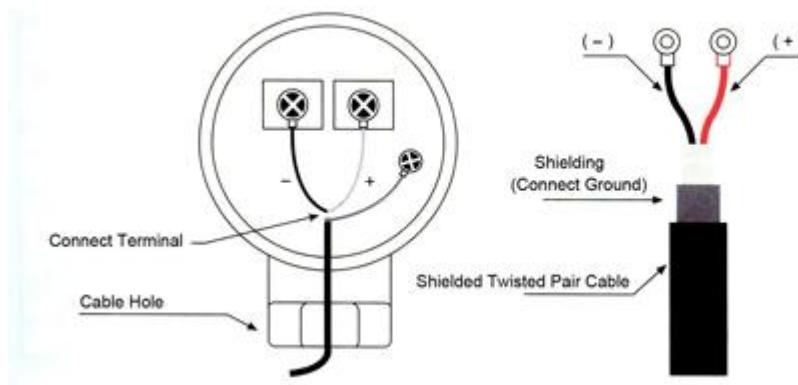

Fig. 12
**SEE FIGURE12** Connect the transducer cables to the corresponding upstream/downstream terminal ends.
In Fig. 12, if the colors of wirings are blue and brown, the blue wiring is connected to “+”, and the brown wiring is connected to “-”. If the colors of wirings are red and blue, the red wiring is connected to “+”, and the blue wiring is connected to “-”.